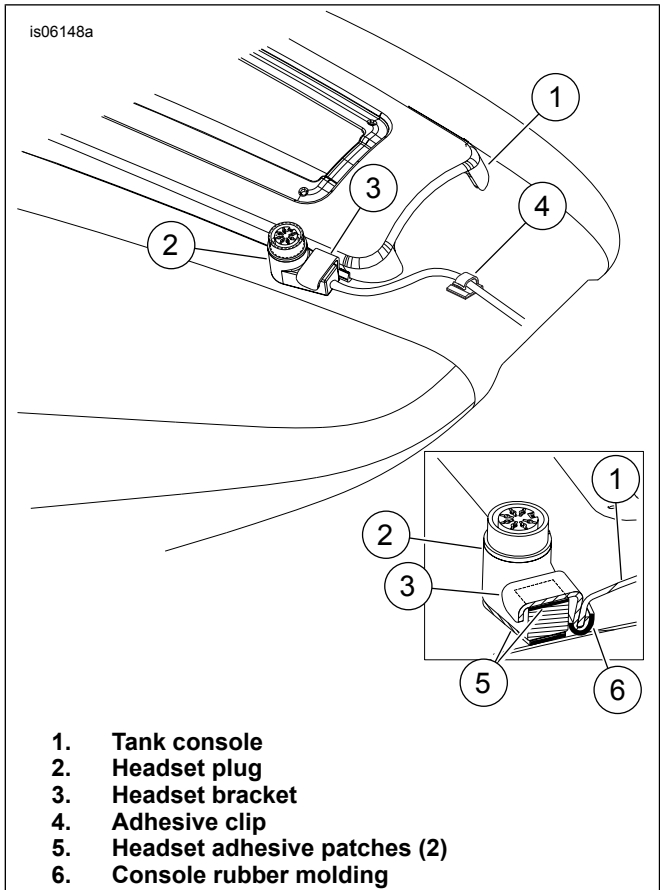

Figure 2. Mounting Rider Headset Plug
10. See Figure 2. Clean the clip mounting area with a mixture of 50 to 70% isopropyl alcohol and 30 to 50% distilled water. Allow to dry thoroughly. The adhesive clip will be secured to the lower portion of the fuel tank, so it will be covered by the seat.
- a. Install the clip (4) on the wire harness. Do not remove the adhesive backer at this time.
- b. Install the narrow end of the headset bracket (3) between the console molding strip and the console at the lower left corner of the console as shown.
- c. Trim the adhesive patch (5) to the shape of the back of the headset plug (2), remove one side of backer and apply to the back of the connector plug to protect the tank from scuffing. Trim the adhesive patch to a 12 x 6 mm (1/2 x 1/4 in) rectangle. Remove one side of the backer and apply to the underside of the bracket as shown.
- f. Install the adhesive back clip (4) as shown. Remove the adhesive backing from the clip and install the clip onto the fuel tank where it will be covered by the seat.